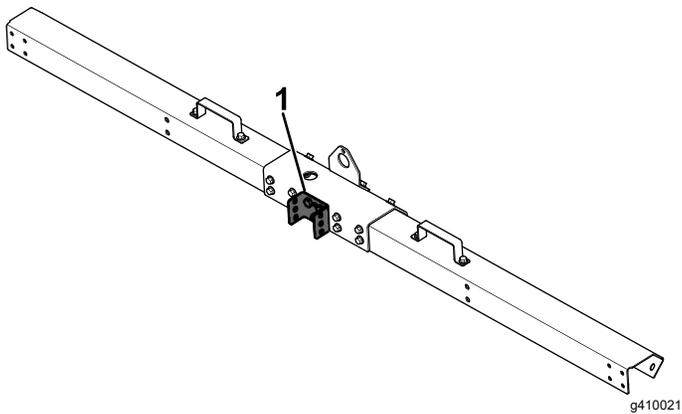

Figure 15
5. Attach the boom height bracket onto the shroud with 3 bolts (1/2 x 1-1/4 inches) and 3 locknuts (1/2 inch) as shown in Figure 15.